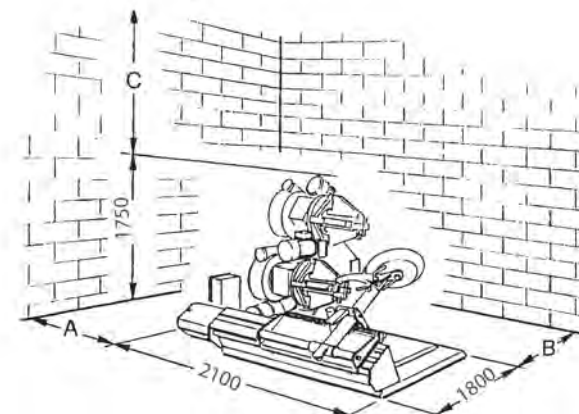

fig.16
COLLOCAMENTO (fig.16)
LOCATION (fig.16)
Ved. Fig. 16 dimensioni A - B - C
See Fig. 16 dimensions A - B - C
PLACEMENT (fig.16)
V. Fig. 16 dimensions A - B - C
AUFSTELLEN (Abb.16)
Siehe Abb. 16, Außenmaße A - B - C
COLOCACION (fig.16)
Véase Fig. 16 dimensiones A - B - C